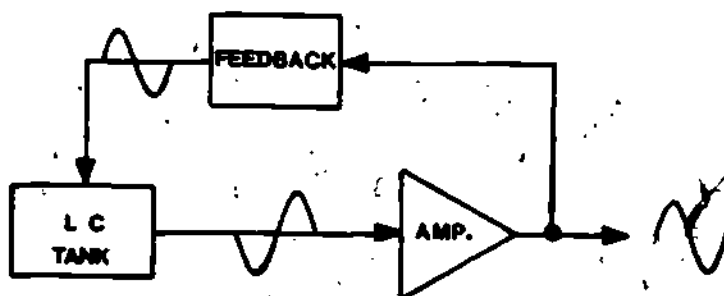

Figure 1
1. When you previously studied LC oscillators, you learned how the LC tank circuit and amplifier accomplish a 360 degree phase shift. You learned that the purpose of this phase shift was to provide regenerative feedback for the oscillator circuit. Remember that the purpose of the regenerative feedback is to compensate for internal power losses within the circuit and that without this feedback the circuit will stop oscillating. The requirements for a basic LC oscillator circuit are shown pictorially in Figure 1.